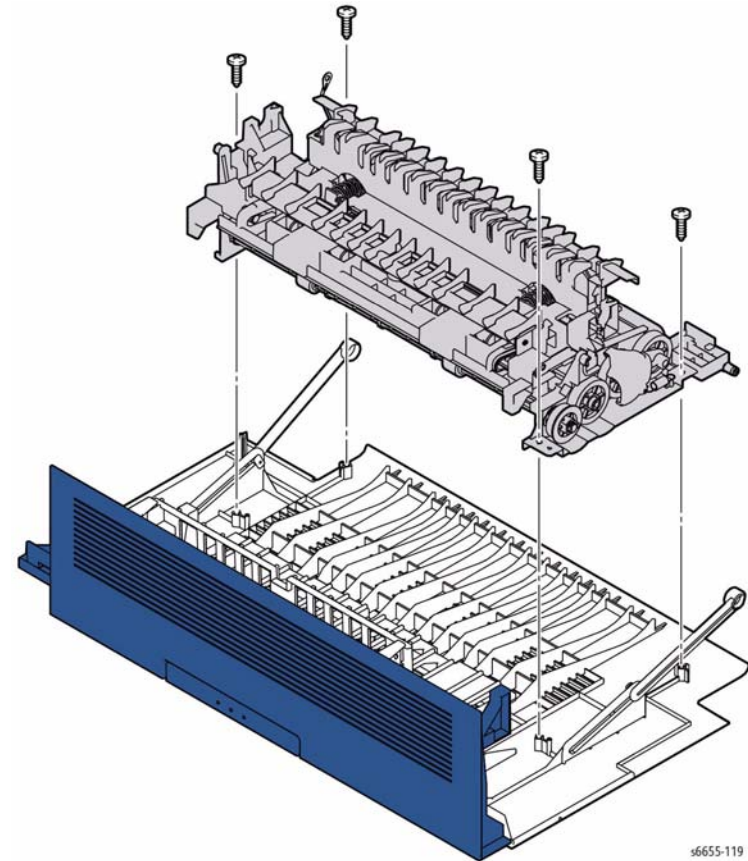

Figure 1 Remove the Duplex Assembly
2. Refer to Figure 1 to locate and remove the four screws (silver, tapping, 8 mm) that attach the Duplex Assembly to the Rear Cover and remove the assembly.